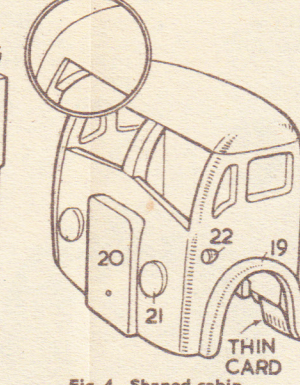
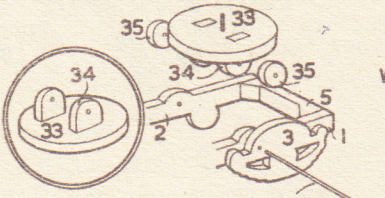

Fig. 4—Shaped cabin
Fig. 5—The tractor chassis
Now build the cabin from parts 14 to 18. Note the top of 14 projects slightly beyond 16 at the upper portion, and the way part 18 is stepped into the front. When this part 14 is fixed, it is shaped down to form the same curve as the side (16). The whole of this cab has to be rounded off, but before doing this, add the mudguard shaped and glued. All edges of the cab are rounded nicely (see Fig. 4) with Cellophane put behind the side windows, and the inside painted before the roof is finally added.
The front windows of transparent material are cut correctly to the two apertures. Glue a tiny angle of card or thin wood in the corners (see inset Fig. 4), and then tip the edges of the material and the corners with glue and set in place. Note in Fig. 4 also the tiny piece of thin card to form the back face of the mudguards. The lamps 21, 22 can be cut, and if necessary painted, or can be left to fix in place until later. Completion of the floor of this unit is carried on with pieces 23, 24, the rear view at Fig. 5 giving helpful details. Note the addition of Pump portions (25) which are glued on this side only, connecting with the back of the cab.